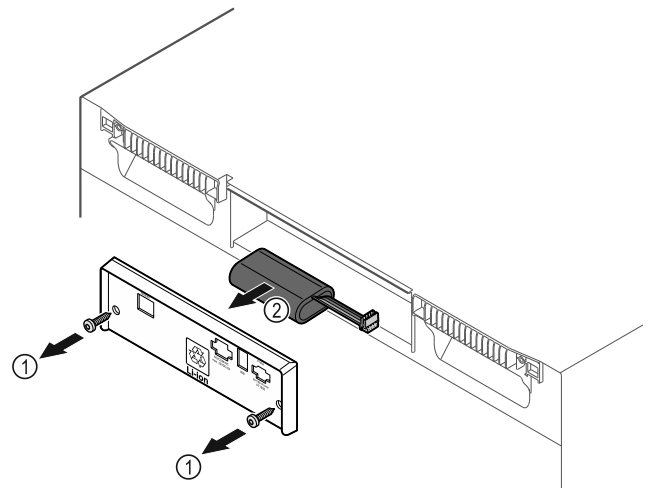

Fig. 173
- ▶ Unscrew screws and remove cover from the back of the appliance Fig. 173 (1).
- ▶ Disconnect and remove battery Fig. 173 (2).